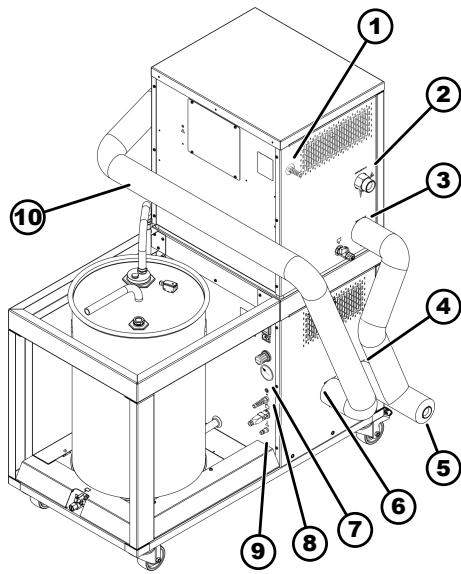

Fig. 11: Assembly shown without constant temperature equipment
- ▶ The Flow controller mounted on the Filling and draining unit is ready for operation. The pipes are insulated. There is a short curved pipe with a T-extender (5) and a long curved pipe (10, Fig. 11).
- 5. Screw the other end of the pipe to the OUTFLOW XT/P sleeve (6, Fig. 11) on the Filling and draining unit.
- 6. On this side of the two devices, screw the short pipe with the T-extender to the bottom sleeve. The sleeve is marked RETURN XT/P (4, Fig. 11).
- 7. Screw the other end of the pipe to the Flow controller. The sleeve is marked RETURN XT/P (3, Fig. 11).
- 13. Screw the other end onto the inlet sleeve of the Flow controller. The inlet sleeve is marked OUTFLOW XT/P (2, Fig. 11).
14. Insert the LiBus cable (8, Fig. 11) of the Filling and draining unit into the LiBus socket on the Integral XT and screw tight in a clockwise direction.
15. Insert and screw the T-connector (EKS 073) for LiBus into the LiBus socket (7, Fig. 11) of the Filling and draining unit.
16. Attach the connector on the LiBus cable (1, Fig. 11) of the Flow controller to a LiBus socket on the T-connector (7) of the Filling and draining unit.
18. Connect the Filling and draining unit to a compressed air supply. Attach the compressed air hose to the connection (9, Fig. 11) on the Filling and draining unit.